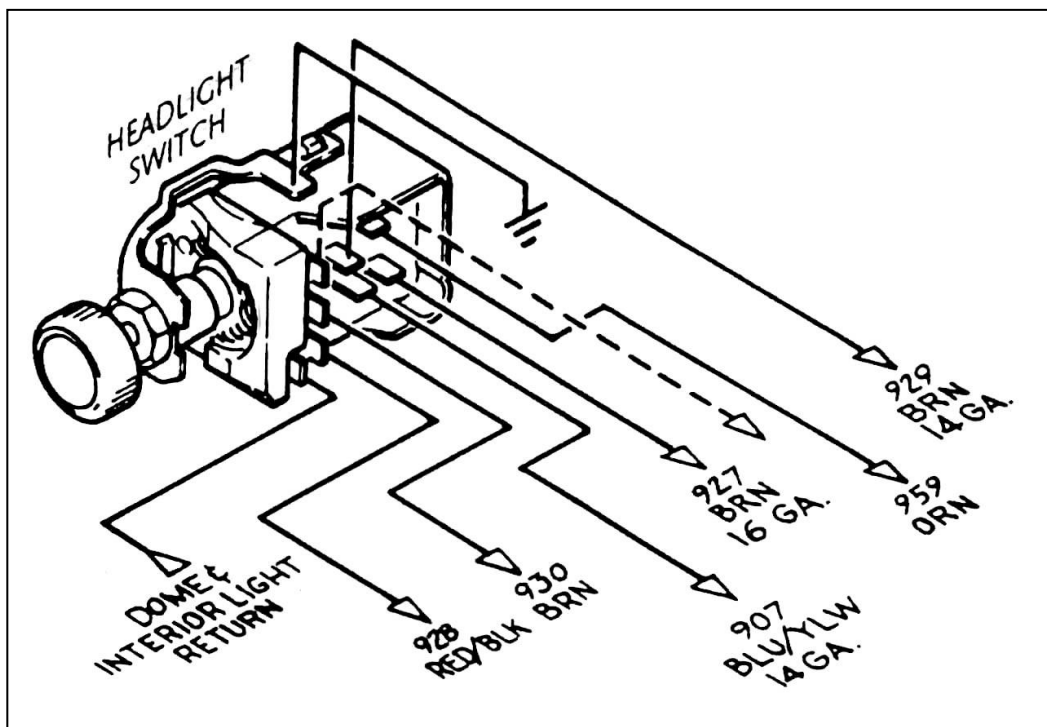

Figure 8.5 HEADLIGHT SECTION B Wiring (GM Style Switch – Painless Part #80152)
- 8.1.1** Interior lights are switched through the optional door switches and/or the dash-mounted headlight switch, which is usually rotated counter-clockwise to turn on. These switches apply ground to the circuit. YOU WILL NEED TO SUPPLY THE GROUND WIRES that go to the door switches. We have connected the wire that goes from the light to the headlight switch for you. 12V is continually present at the light bulbs. See **Figure 8.5**.
- 8.1.2** If you are using door switches, you will need to add the wires connecting them. Connect one end of the wire to the door switch and the other end to (wht) at the pigtail under the fuse block. See **Figure 8.5**.
- 8.2.2** Connect HEADLIGHT SECTION A wire #908 (lt.grn) to the green wire of BOTH headlamp connectors. If you have a quad headlamp setup you will need to connect the two high beam headlamps to this wire as shown by the dotted lines in **Figure 8.5**. Connect wire #909 (tan) to the tan wires of both headlamp connectors. Connect the black wires of the headlamp connectors to chassis ground. You should have enough wire to accomplish this. You have been supplied with two small grommets should you need to pass these wires through a fender well. Don't forget to thread them onto the wires BEFORE you connect the wires.
- 8.2.5** Connect the DIMMER SWITCH SECTION cable to the floor mounted dimmer switch. If you have a column mounted dimmer switch, the plug is the same as the floor mount version. See **Figure 8.5**.
- 8.3.1** Connect the 6 wires of HEADLIGHT SECTION B, the dome and interior light return circuit and the headlamp switch ground as shown. Wire #959 (orn) should be connected as shown in **Figure 8.5**. This wire provides power for the taillights and dash lights and is coming from the horn fuse at the fuse panel. The purpose of this wire is in the event of a short in the dash or taillights the headlights will remain working since they have their own separate fuse. If you do not have a GM headlight switch, you should trace out the wires of your existing harness and connect the new harness according to **Table 9-2**.
Note: *On late style GM headlight switches, the park lights terminal to which wire #927 (brn) is connected (shown in Figure 8.5) has been omitted. In this case, wire #927 must be connected as indicated by the dashed line in Figure 8.5.*